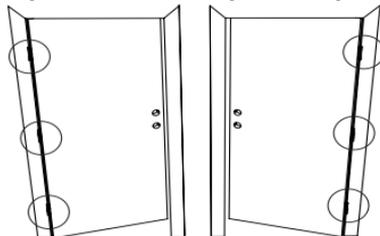

Figure 2b
- Place Mounting Plate against door with tailpiece passing through the center hole in the three hole set (Figure 2b).